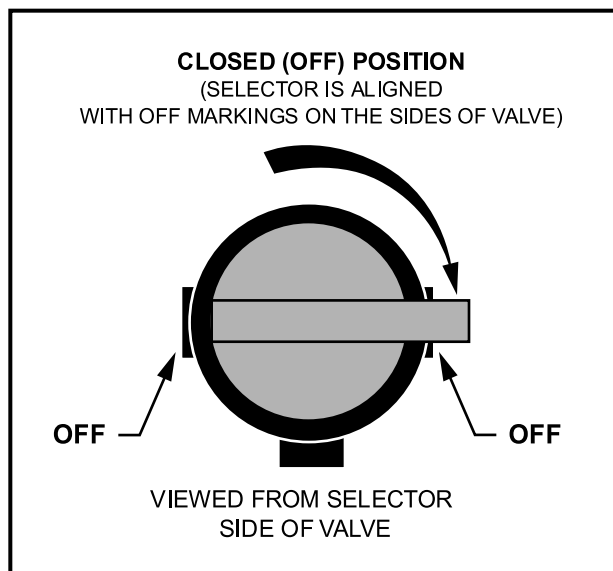

Figure 14 Fuel Shut-off Valve – Closed Position
- TURN FUEL SHUT-OFF VALVE TO CLOSED (**OFF**) POSITION (**FIGURE 14, PAGE 25**).
- 3.1. Place the Forward/Reverse handle in the NEUTRAL position and the service cam in the SERVICE position. Turn the fuel shut-off valve to the closed (OFF) position (**Figure 14, Page 25**) and run the engine until fuel remaining in the carburetor and fuel lines is used up and the engine stalls. Return the service cam to the OPERATE position.